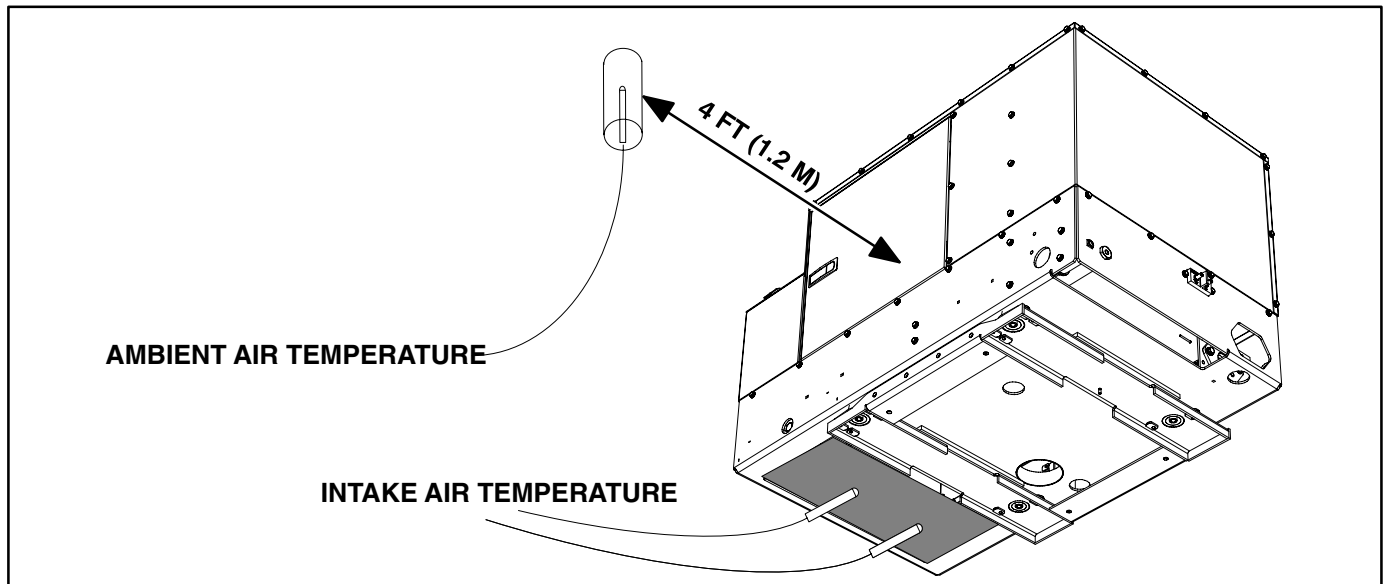

FIGURE 18. THERMOCOUPLE LOCATIONS FOR HOT AIR RECIRCULATION TEST
5. Measure genset intake air temperature with one or two thermocouples tied about 1 inch away from the face of the radiator in the intake air opening (Figure 18). Make sure the thermocouples don't touch the radiator.